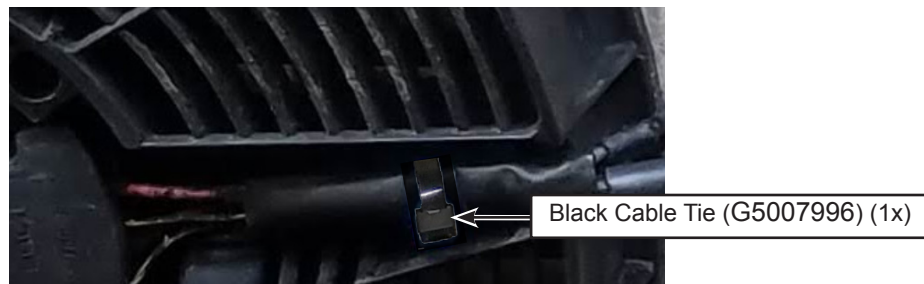

*Figure 18 - Heat Shrink Tubing Installation on DT Receptacle Connector Wiring at Harness Side*
- 1.32. Using a heat gun, apply the large heat shrink tubing PN N82227-04 starting from the boot adapter of DT receptacle connector finishing directly over the smaller heat shrink tube previously installed on the paired control wires (see figure 18). Make sure to fill any gap with the inner adhesive liner glue (do not apply heat shrink tubing over tape or loom).